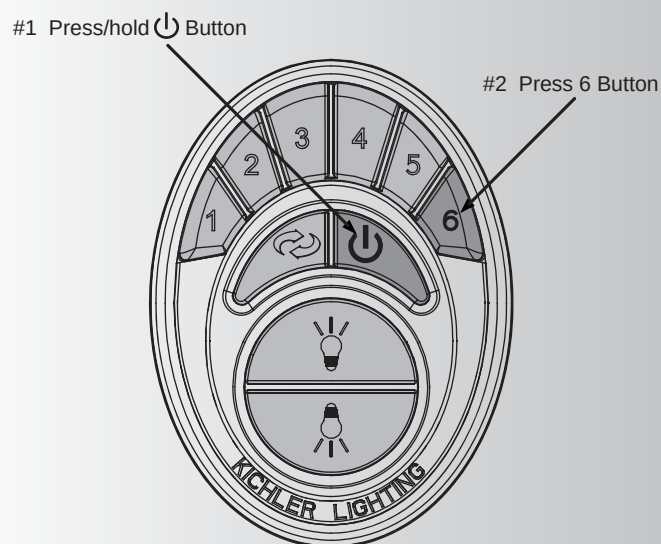

Fig. 24
4. Turn the power on, press and hold the  button until the ceiling fan light blinks twice (Figure 24)
6. After the ceiling fan light blinks twice, press and release the High Speed (6) Button. Let the ceiling fan run for a minimum of 90 seconds (1 ½ minutes). The control system will do another self check, initialize all operational functions and complete the programming process (Figure 24).